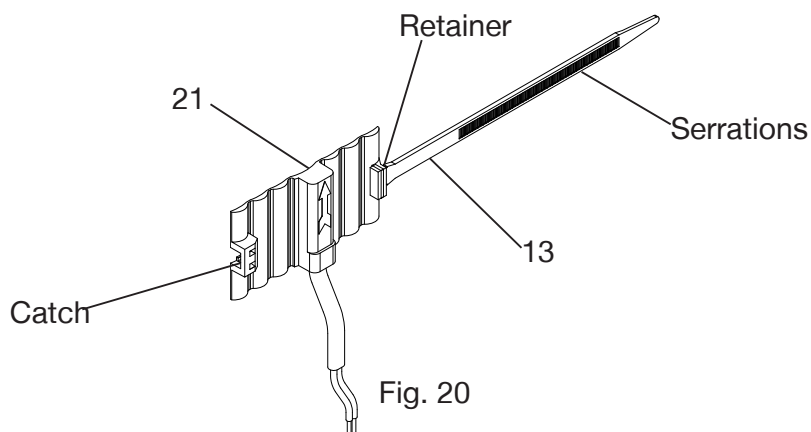

Fig. 20
- Firstly feed the tie wrap (item 13) through the retainer on the reed switch, ensuring that the tie wrap serrations are facing outwards (Fig. 20).